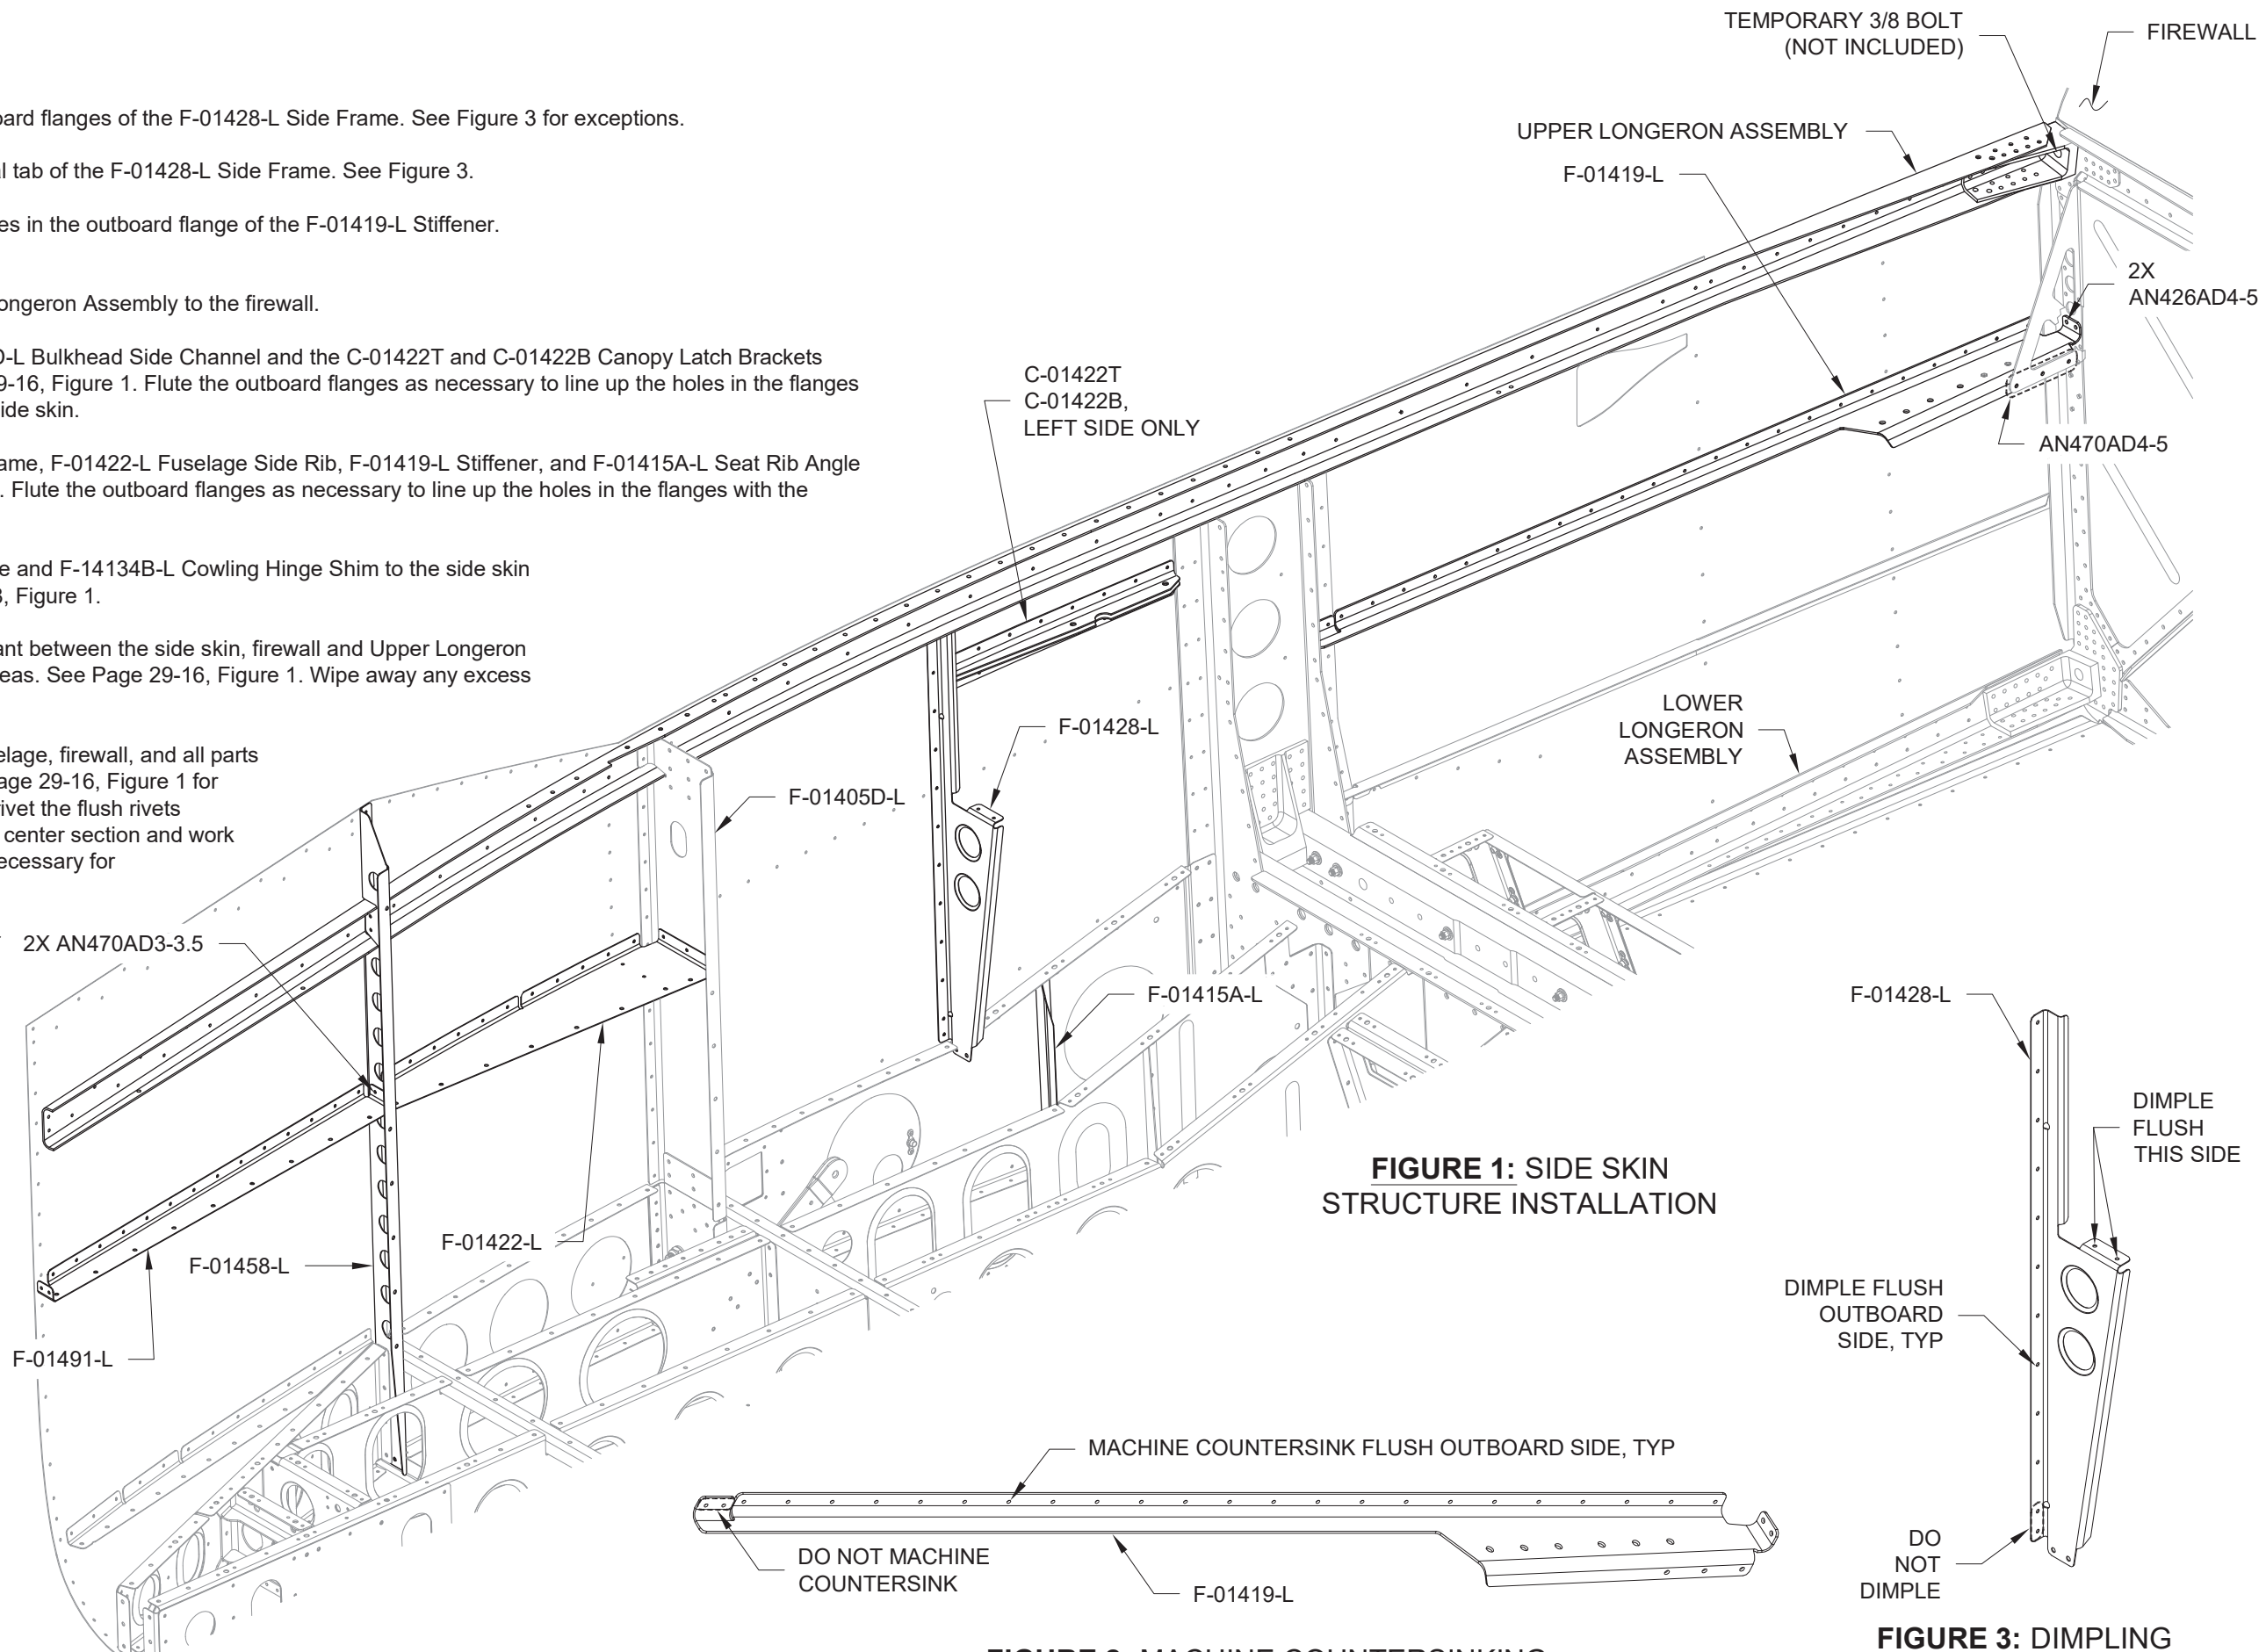

FIGURE 1: SIDE SKIN STRUCTURE INSTALLATION
Step 9: Rivet the F-01419-L Stiffener 2X AN470AD3-3.5 to the firewall as shown in Figure 1.
Step 10: Rivet the F-01491-L Fuselage Side Rib, F-01458-L Side Frame and F-01422-L Fuselage Side Rib together as shown in Figure 1.